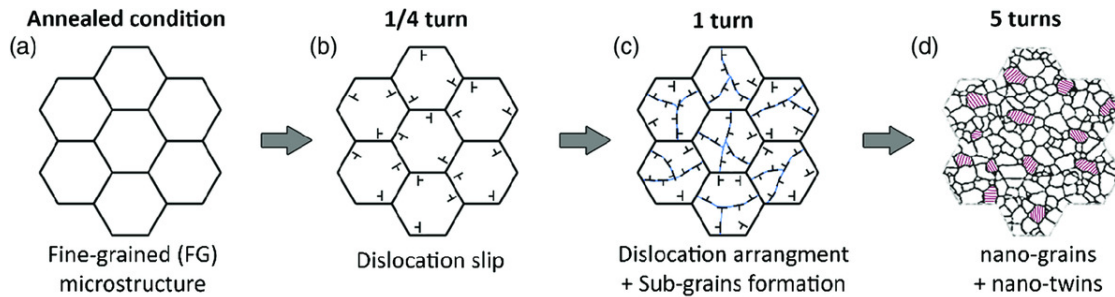

Figure 6 / *Rajah 6* : Refinement of grains during high pressure torsion of alloy /
- (b). Severe deformation techniques have been reported to effectively refined grain structure, and refinement of grains as shown in Figure 6 via high pressure torsion is one example of these techniques. The refinement is the result of dislocation movement during deformation which leads to sub-grain formation following the dislocation accumulation within original grains. Based on your understanding of dislocation motion, discuss how dislocation motion enables ductility in metals. Would the ductility depend on the crystal structure? Use suitable sketches to illustrate your discussion.